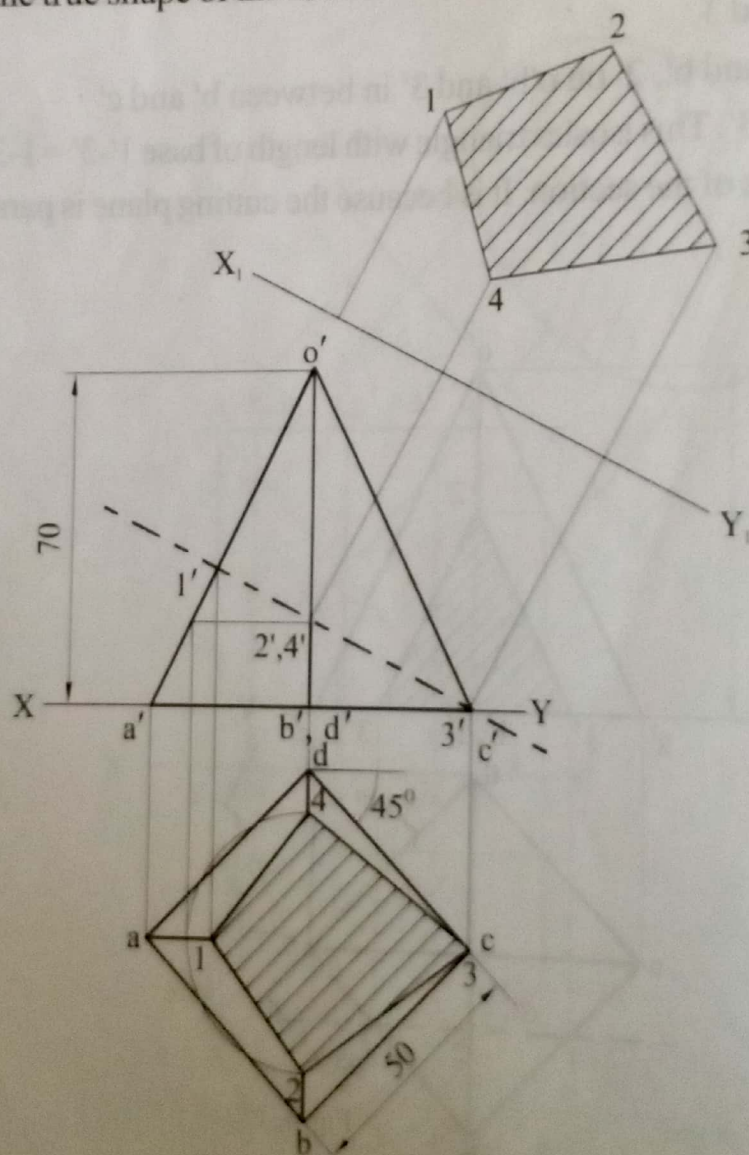

Fig. 4.18
5. Draw the true shape of the section as shown in Fig. 4.18.